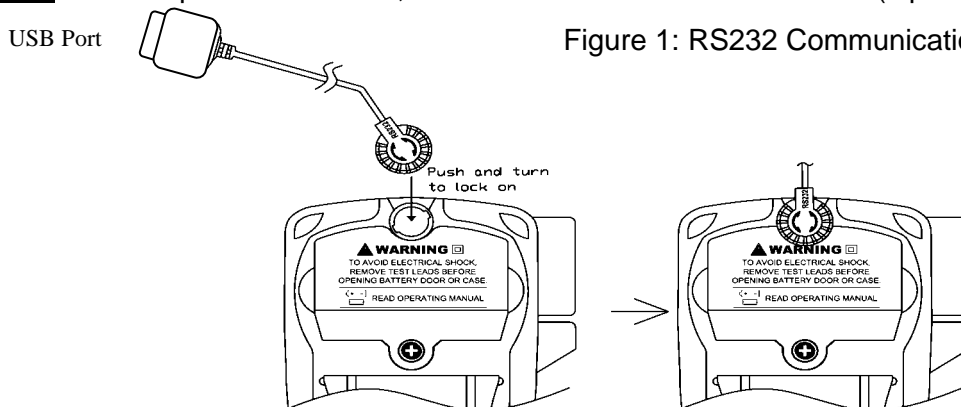

Figure 1: RS232 Communication
- 1) Connecting the RS232 (USB) cable to the meter and a computer as shown in Figure 1, then turn on the meter.